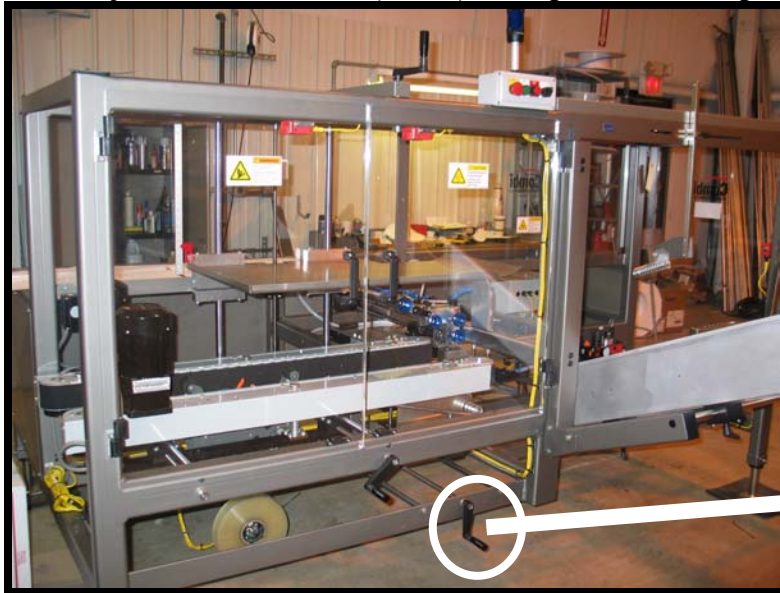

Figure 28. Plow Adj Handle
1. Adjust the Case Plow Assembly to the same width measurement used to adjust the magazine. (See Handle in Figure 28.)